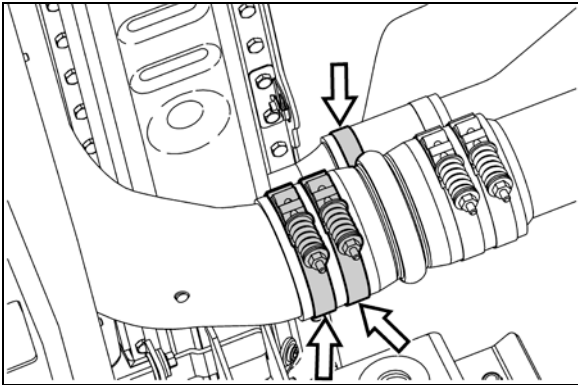

FIGURE 26: REAR COOLANT & CHARGE AIR PIPES
11. Remove rear coolant and charge air hose clamps then break hoses loose (Figure 26).